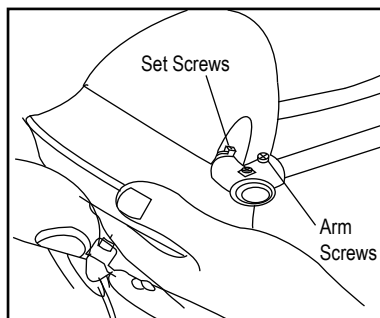

Fig.11
- Loosen the two set screws on both sides of the motor; (Fig.11)